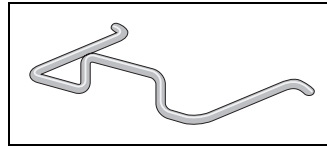

Figure 29. Power Cord Retaining Clip
1. Locate the power cord retaining clip, shown in Figure 29.